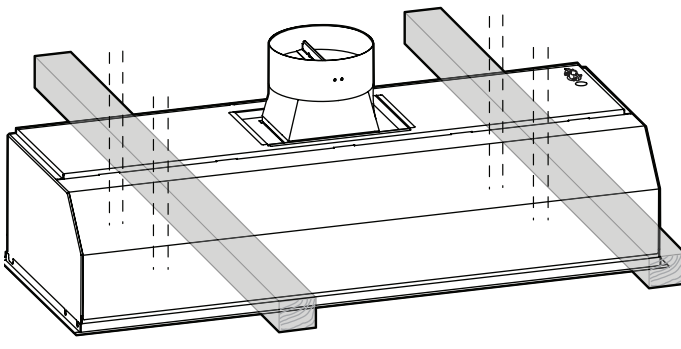

Figure 11: Side Screws
- c) Secure to the sides of the housing framework using eight (8) x 1" (25.4 mm) mounting screws, 4 per side as indicated in Figure 11.